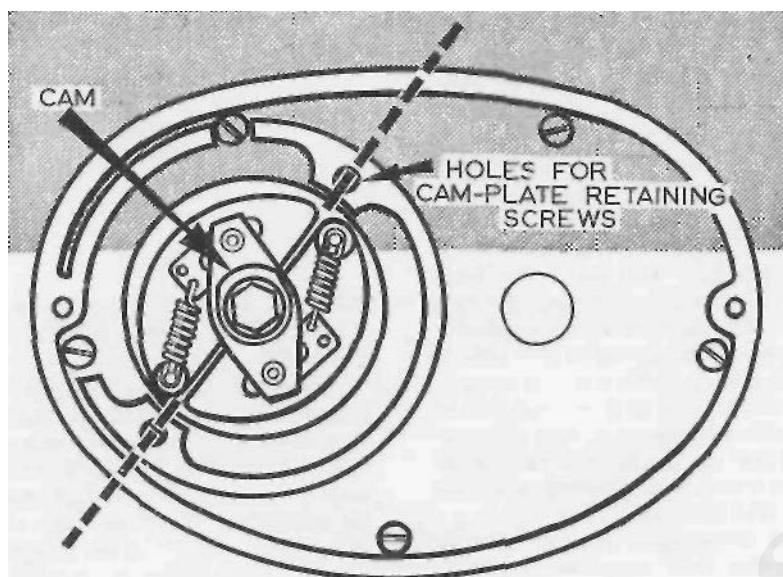

FIG. 15
Refer to Fig. 15, and fit automatic advance control, with the gap formed by the two bob weights in line with the two tapped holes, used to secure contact breaker plate; it should be noted that the peak of the cam, or narrowest part, when correctly positioned is approximately at 12 o'clock.
**Resetting the ignition timing.** Fit the automatic timing control (make sure the weights move freely, apply a spot of oil on the pivot pins) and the contact plate (Fig. 15), and roughly assemble the timing control as illustrated in Fig. 15.